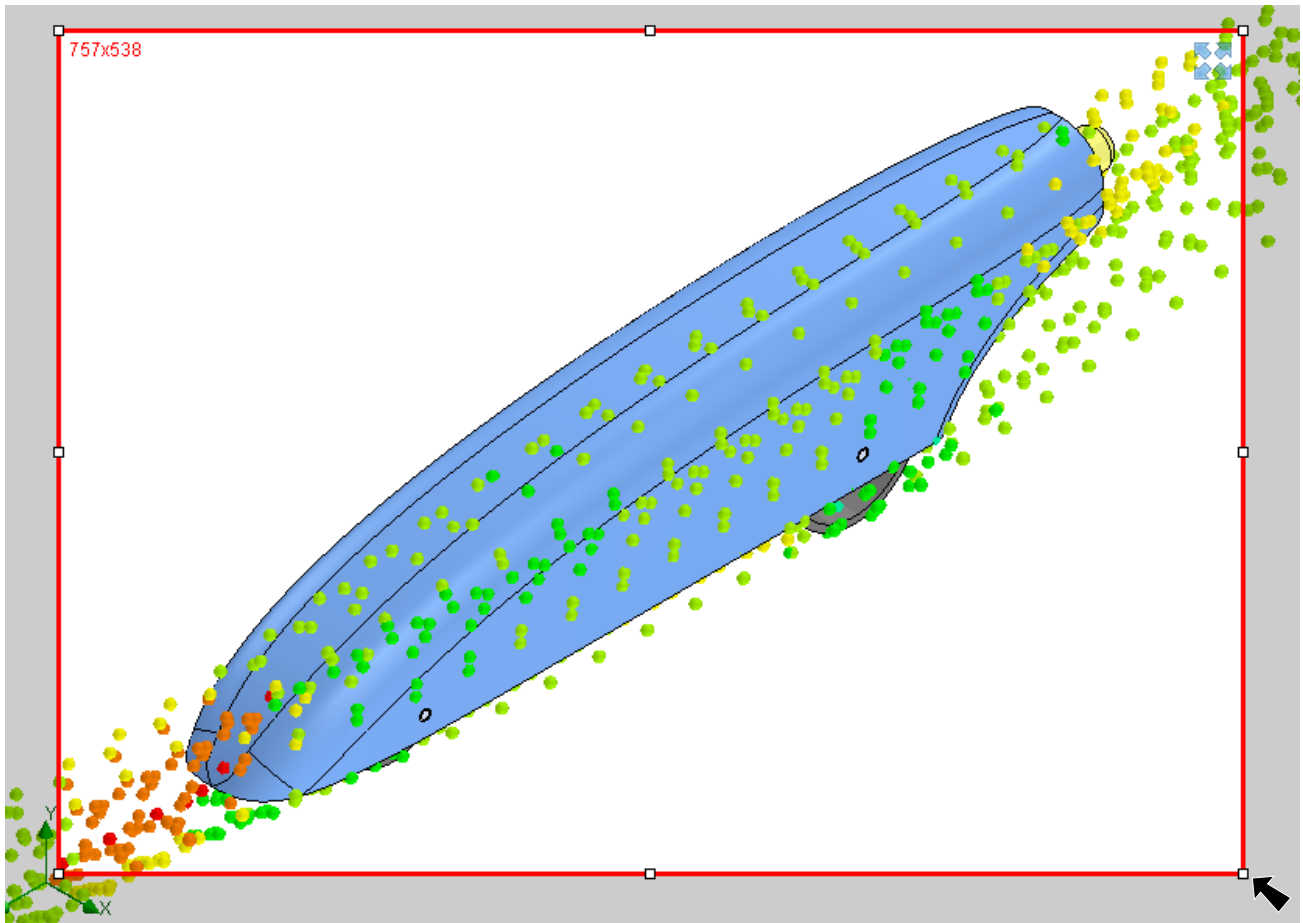

Fig. 35
Step 3. Drag the red frame capture region in graphics area to resize/move capture region, Fig. 35.